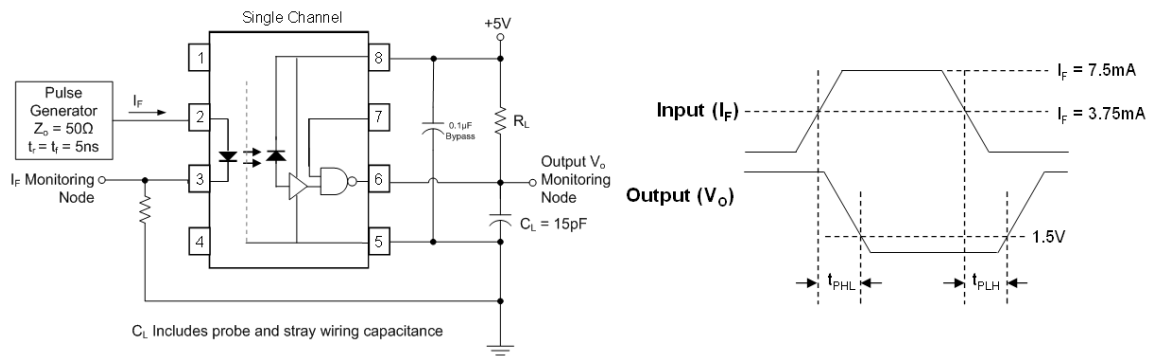

Figure 1: Single Channel Test Circuit for  $t_{PHL}$  and  $t_{PLH}$
1. A 0.1 $\mu F$  or bigger bypass capacitor for  $V_{CC}$  is needed as shown in Fig.1